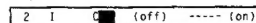

Fig.8.
- 5 Select, if necessary, a video input source (EXT) with Δ + or ∇ -. Then press OK. The first element of the CH position will be highlighted. (See Fig. 8.)